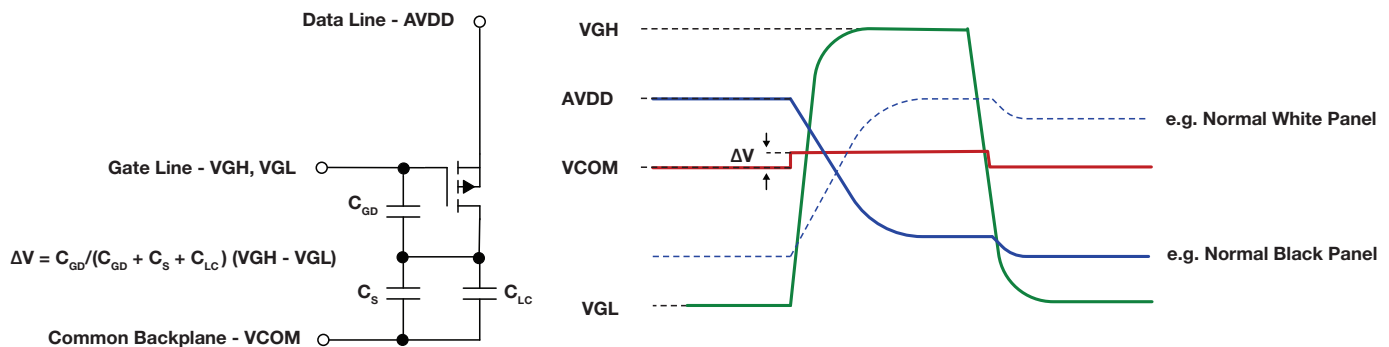

Figure 7. VCOM adjustment.
Image sticking is caused by the parasitic capacitance of the TFT sitting between the gate and the drain of the TFT, also called the Miller capacitance (C_{GD}). At the moment when the TFT turns off, C_{GD} and $C_{LC}||C_S$ are a capacitive voltage divider that leads to a voltage drop on the inductor capacitor (LC). The steeper the falling edge, the higher the residual DC component on the LC, which is perceived as image sticking. Thus, VCOM must compensate for this voltage drop and adjust the voltage to the center of the pixel voltage at the transition time, shown by the red line in **Figure 7**.